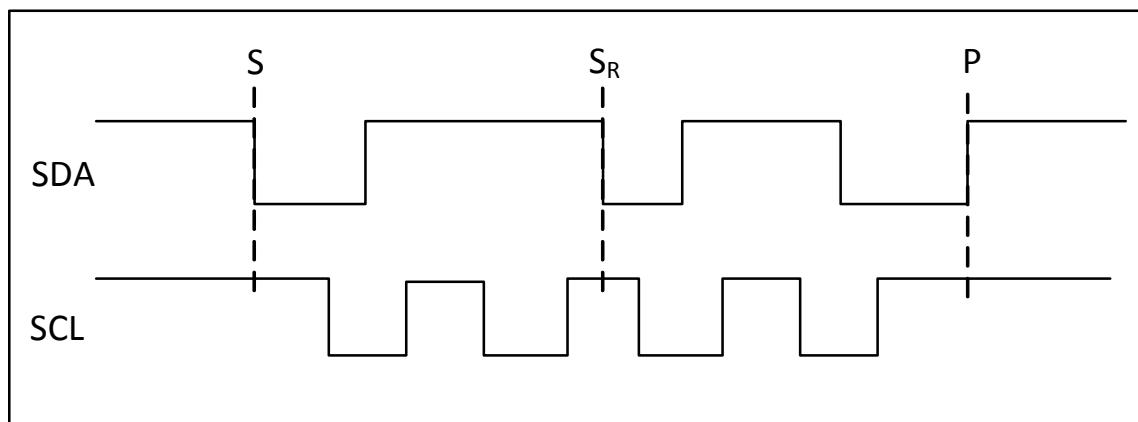
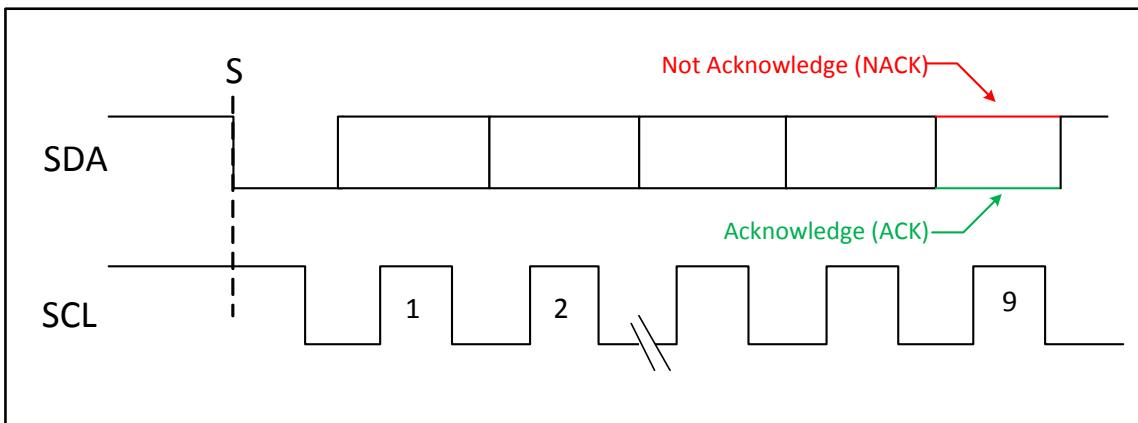

Figure 9. Start and Stop Conditions
Figure 10. Acknowledge Cycle
The I²C/SMBus serial port is a two-wire serial bus where data line SDA is bidirectional and clock line SCL is unidirectional. Reads and writes to this interface by the master are byte-oriented, with the I²C/SMBus master controlling the serial data rates up to 240 kbps. The SDA and SCL lines must be pulled high through pull-up resistors of 5 kΩ or less. An Si8901 ADC read transaction begins with a START condition ("S" or Repeated START condition "SR"), which is defined as a high-to-low transition on SDA while SCL is high (Figure 9). The master terminates a transmission with a STOP condition (P), defined as a low-to-high transition on SDA while SCL is high. The data on SDA must remain stable during the high period of the SCL clock pulse because such changes in either line will be interpreted as a control command (e.g., S, P SR). SDA and SCL idle in the high state when the bus is not busy. Acknowledge bits (Figure 10) provide detection of successful data transfers, whereas unsuccessful transfers conclude with a not-acknowledge bit (NACK). Both the master and the Si8901 generate ACK and NACK bits. An ACK bit is generated when the receiving device pulls SDA low before the rising edge of the acknowledged related (ninth) SCL pulse and maintains it low during the high period of the clock pulse. A NACK bit is generated when the receiver allows SDA to be pulled high before the rising edge of the acknowledged related SCL pulse and maintains it high during the high period of the clock pulse. An unsuccessful data transfer occurs if a receiving device is busy or if a system fault has occurred. In the event of an unsuccessful data transfer, the bus master attempts communication at a later time. Figure 11A shows the I²C Slave Address Byte and CNFG_0 byte for the Si8901. Figure 11B and Figure 11C show master/Si8901 ADC read transactions for Demand Mode and Burst Mode, respectively.